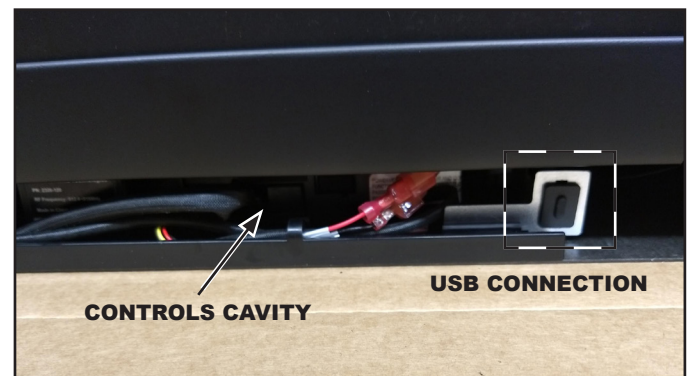

Figure 3.3
- Access to the control cavity (See Figure 3.3) will require the decorative barrier front, glass panel and the glass seal plate to be removed.